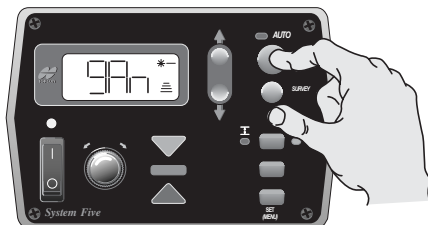

Figure 19. Selecting Gain Elevation
1. From the Performance Menu, press the Auto button to select Gain (Elevation) (Figure 19).